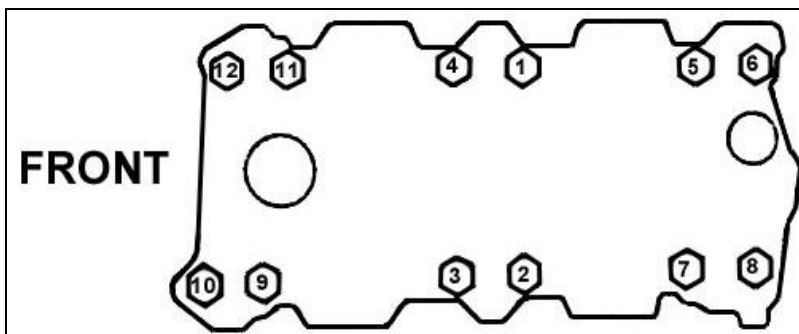

Figure 2—Intake Manifold Torquing Sequence
13. Tighten the bolts to 15 ft./lbs. and progress to 25 ft./lbs. in the 5 ft./lb. increments, noting the torquing sequence in Figure 2. Retighten the valve cover.